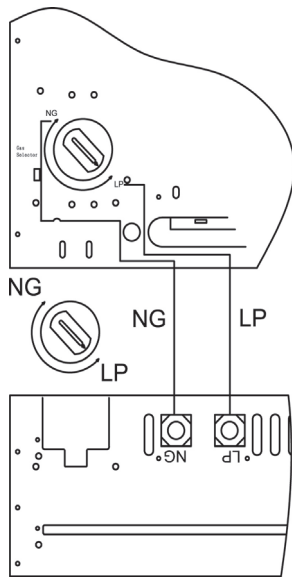

Figure 13
1. Remove top screw from cover plate, See Figure 13, and rotate to expose fuel selection device.